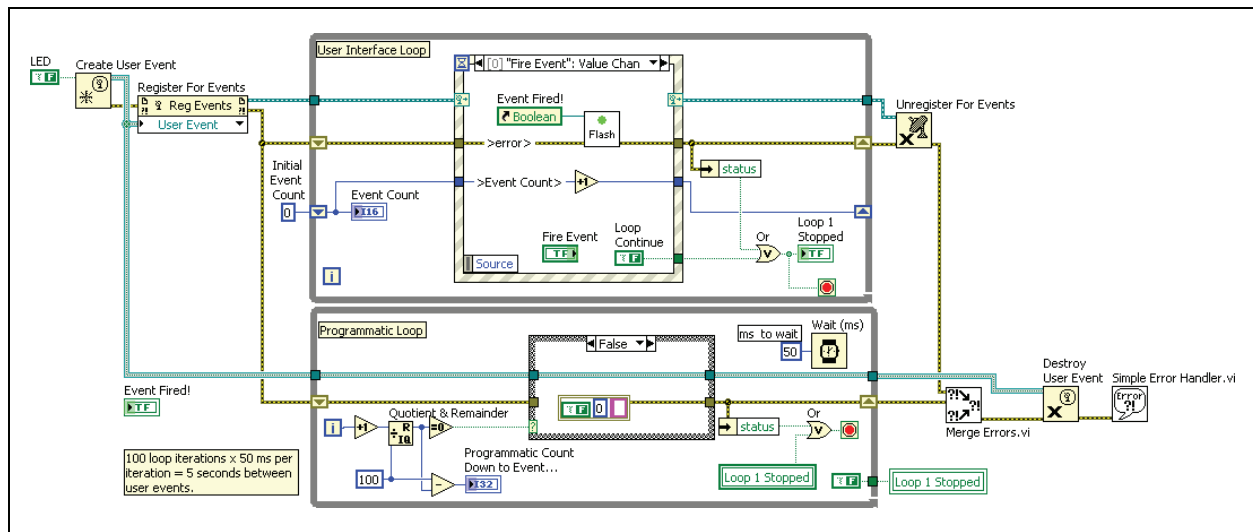

Figure 4-6. Completed User Event VI Block Diagram
6. Complete the block diagram as shown in Figure 4-6 to stop the User Interface Loop, release the user event resources, and handle any errors that have occurred. Use the following items: